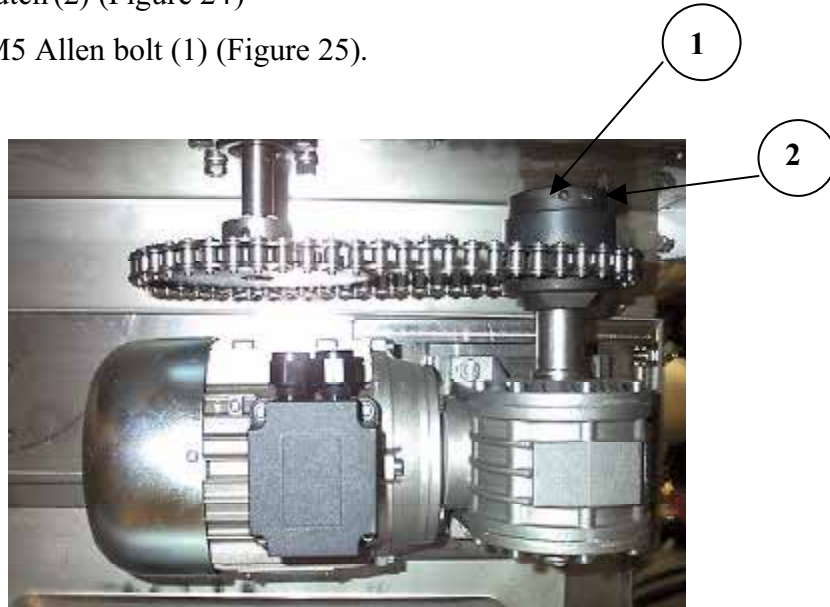

Figure 24
2. Adjust the clutch (2) (Figure 24)